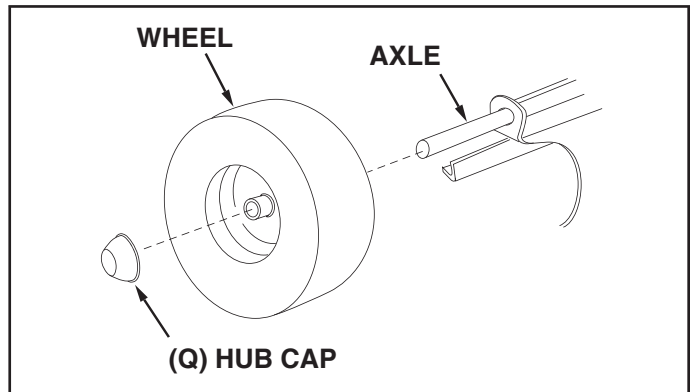

FIGURE 6
- Assemble a wheel with the valve stem facing out onto the axle. Assemble a hub cap (Q) by pressing or tapping it onto the axle. Repeat on other end of axle. See figure 6.